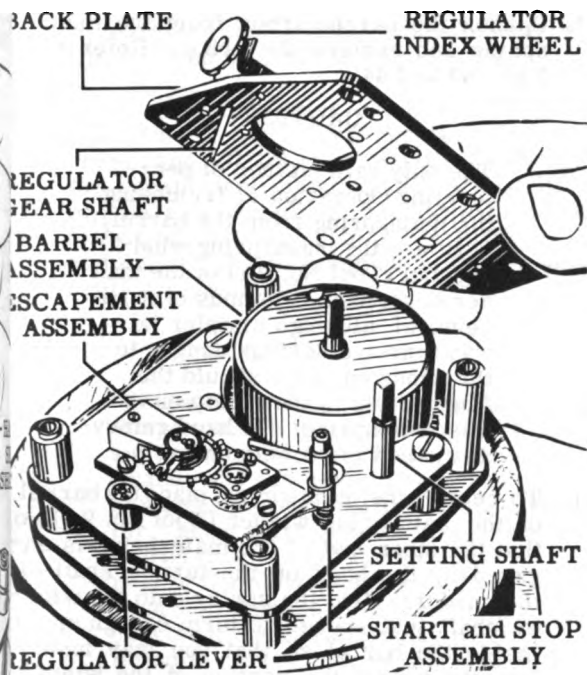
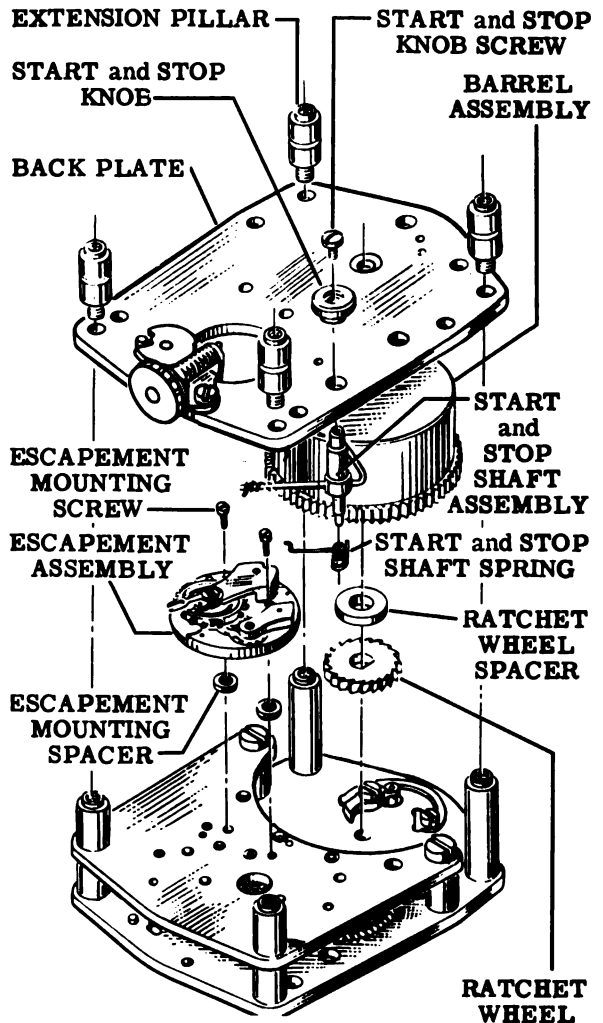

Figure 40
Figure 42—5189 Boat and Deck Clock Movement
- A. In Boat and Deck Clock movements, remove the four extension pillars with the pillar pliers, Tool No. 6A. Lift off the back plate as shown in Fig. 40. The start and stop shaft assembly may fall out as soon as the back plate is removed—if it does not, remove it. Refer to Fig. 42.